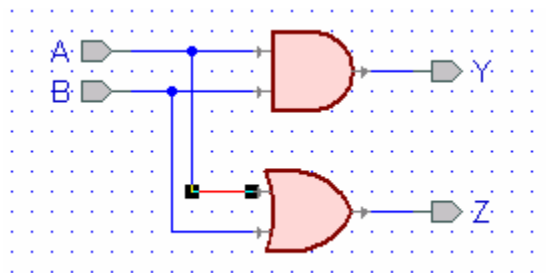

**Figure 17**
1. Click on the Wire icon in the toolbar (see Figure 17).